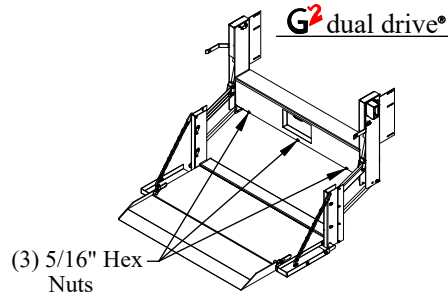

Figure 11: Box cover locations.
2. **Mark** two (2) 1/4" hole locations on the truck body using the tube holder as a guide.
3. **Check** for obstructions and **Drill** two (2) 1/4" holes in the positions marked in step 2.
4. **Fasten** the tube holder with the supplied two (2) 1/4"x3/4" bolts and locking nuts.
5. **Remove** and **Discard** the black plastic plug in the rear of the liftgate for spare tire tube access (Figure 11).
1. **Remove** the box cover by removing the 5/16" hex head nuts (Figure 11).